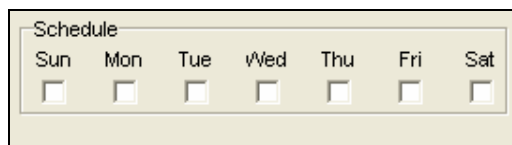

Figure 17.2.24
5. Check the days that you want to use Hold-Over on (Figure 17.2.24).